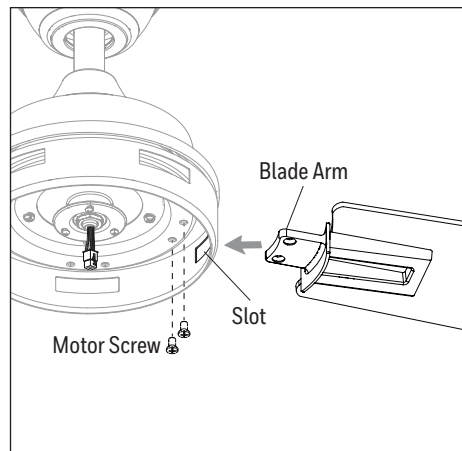

Figure 5.5
5. Insert blade arm through slots in the side of the motor assembly. Align the holes of one blade arm with two motor screw holes in underside of the motor assembly. Secure with two motor screws. Repeat this step for the remaining blade arms (Figure 5.5).